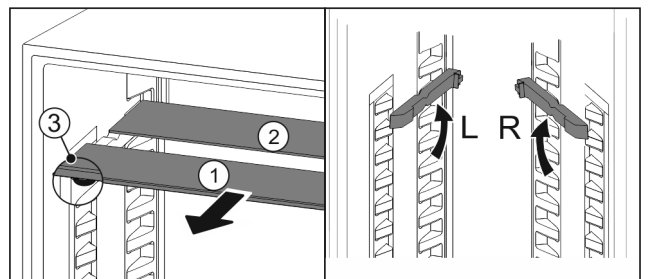

Fig. 176
- ▶ Pull the glass panels out Fig. 176 (1) from the front, one at a time.
- ▶ The glass panel Fig. 176 (1) and trim strip are at the front.
- ▶ The stops Fig. 176 (3) point down.